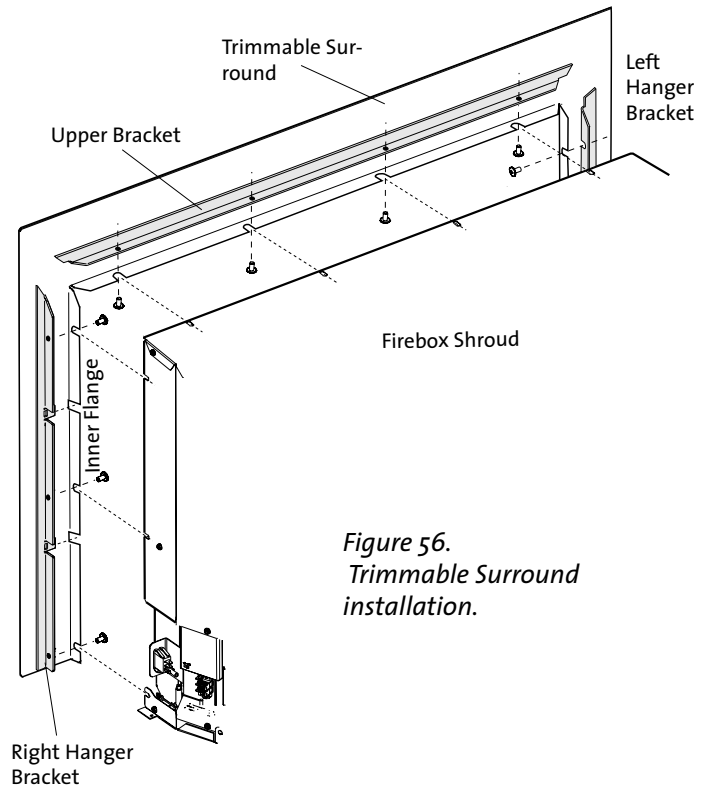

Figure 56.
2. Very loosely attach the three Hidden Surround Hanger Brackets to the insert firebox using the ten, M6 x 8 phillips head screws as shown in Fig. 56.
1. Attach each bracket using the 10 M6 x 8 phillips head screws provided, as shown in fig. 56.